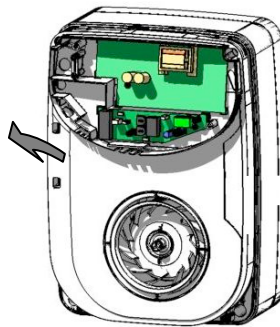
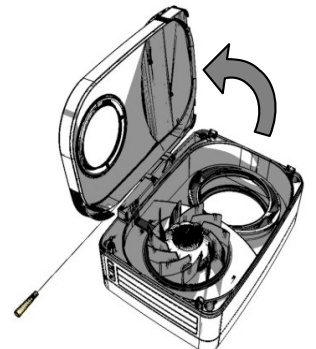

Figure 23.
Figure 24.
2. Lift where indicated to engage hinges - Figure 23 and open Door - Figure 24.